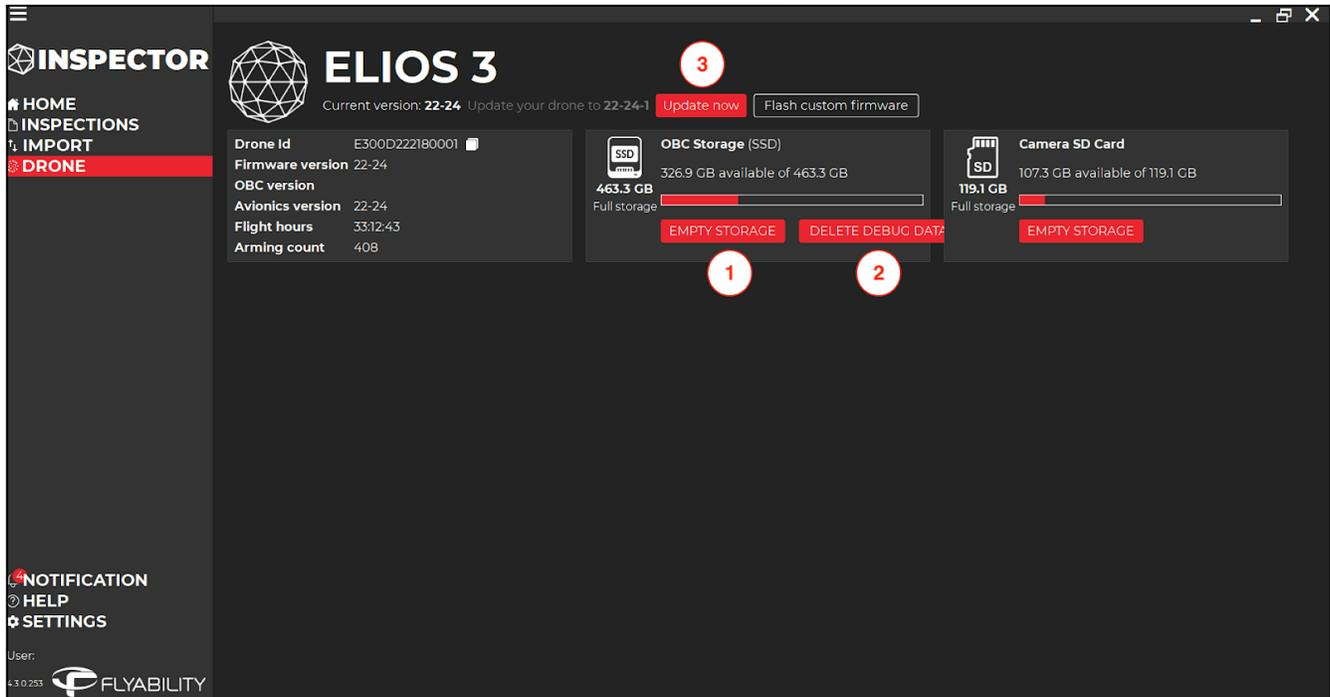

Figure 7: Inspector 4 Drone Screen
From here, you will be able to delete the data stored in the camera card and on the SSD, as shown in figure 7 as (1). CAUTION: Data will be permanently deleted and cannot be recovered. Use this function with extreme caution.
From here (figure 7 as (2)), you will be able to delete the debug data stored in the SSD, but only the ones which are not considered relevant for your flights (data captured while on ground).
From here (figure 7 as (3)), you will be able to upgrade the firmware version.